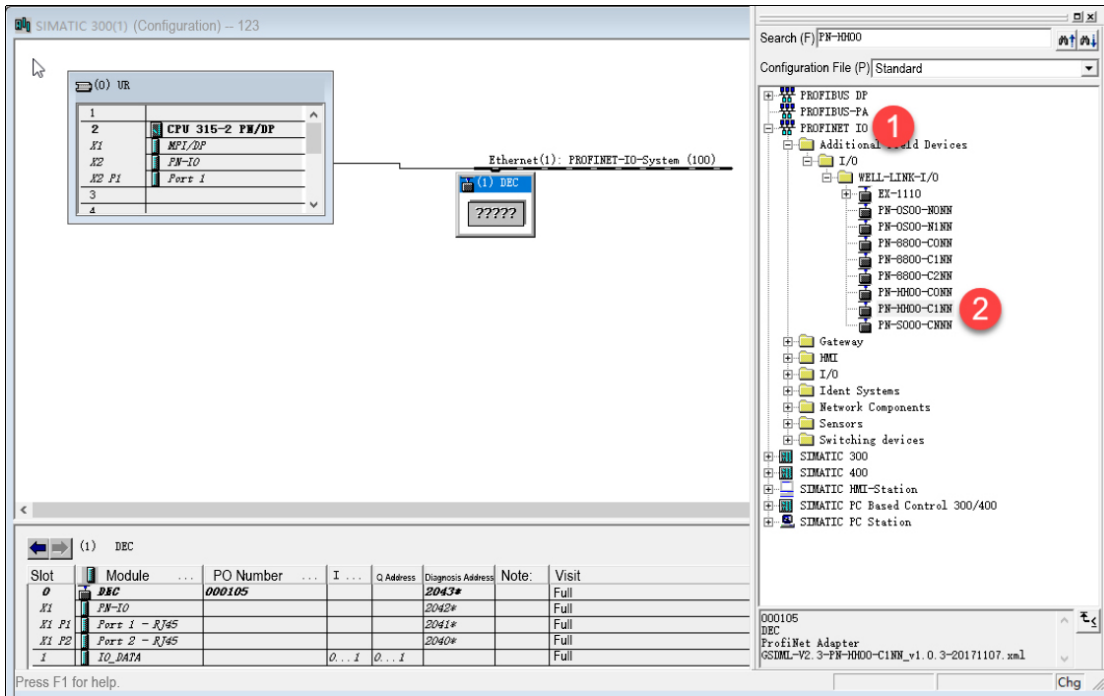

Fig. 5-2-25 Add IO Module into Ethernet (1) subnet
In Ethernet (1), Set I/O device station config. Select PN-HH00-C1NN on the right side and drag under Ethernet(1) subnet, as shown in Fig. 5-2-25